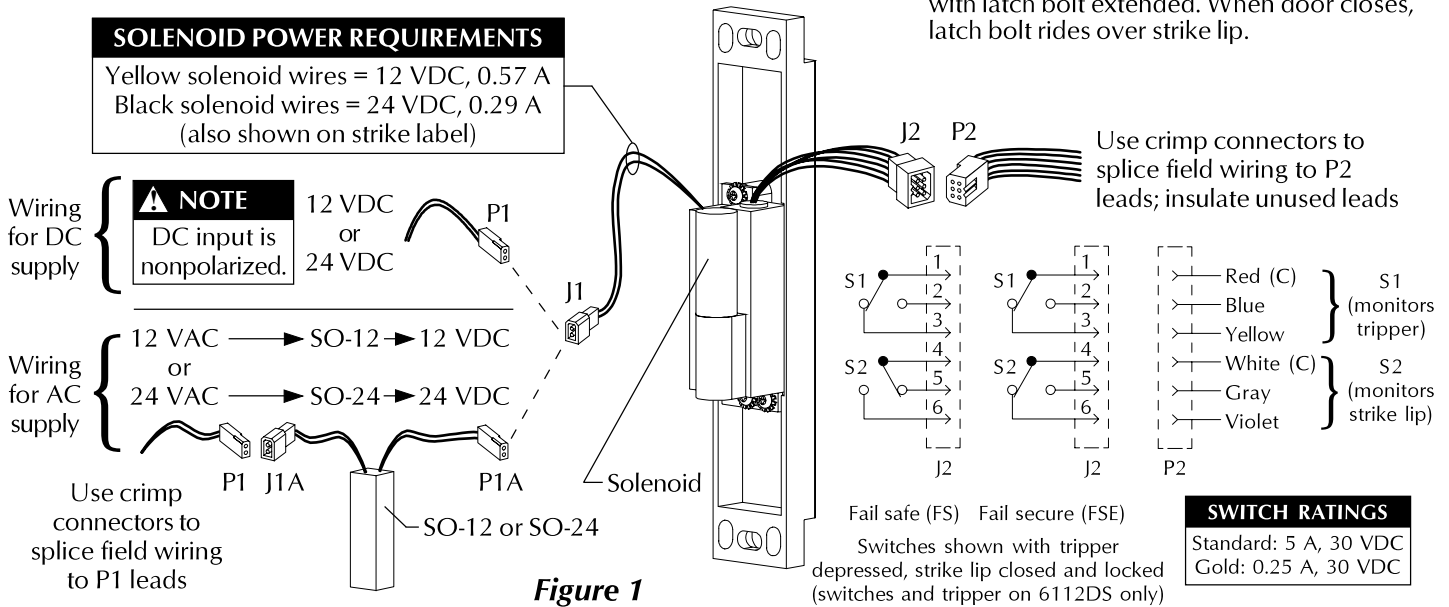

Figure 1
3. Wire strike (Figure 1). (Switches on 6112DS only.)
4. Test strike: Apply solenoid power. Fail secure (FSE) lip unlocks. Fail safe (FS) lip locks. Figure 1 shows status of switches.